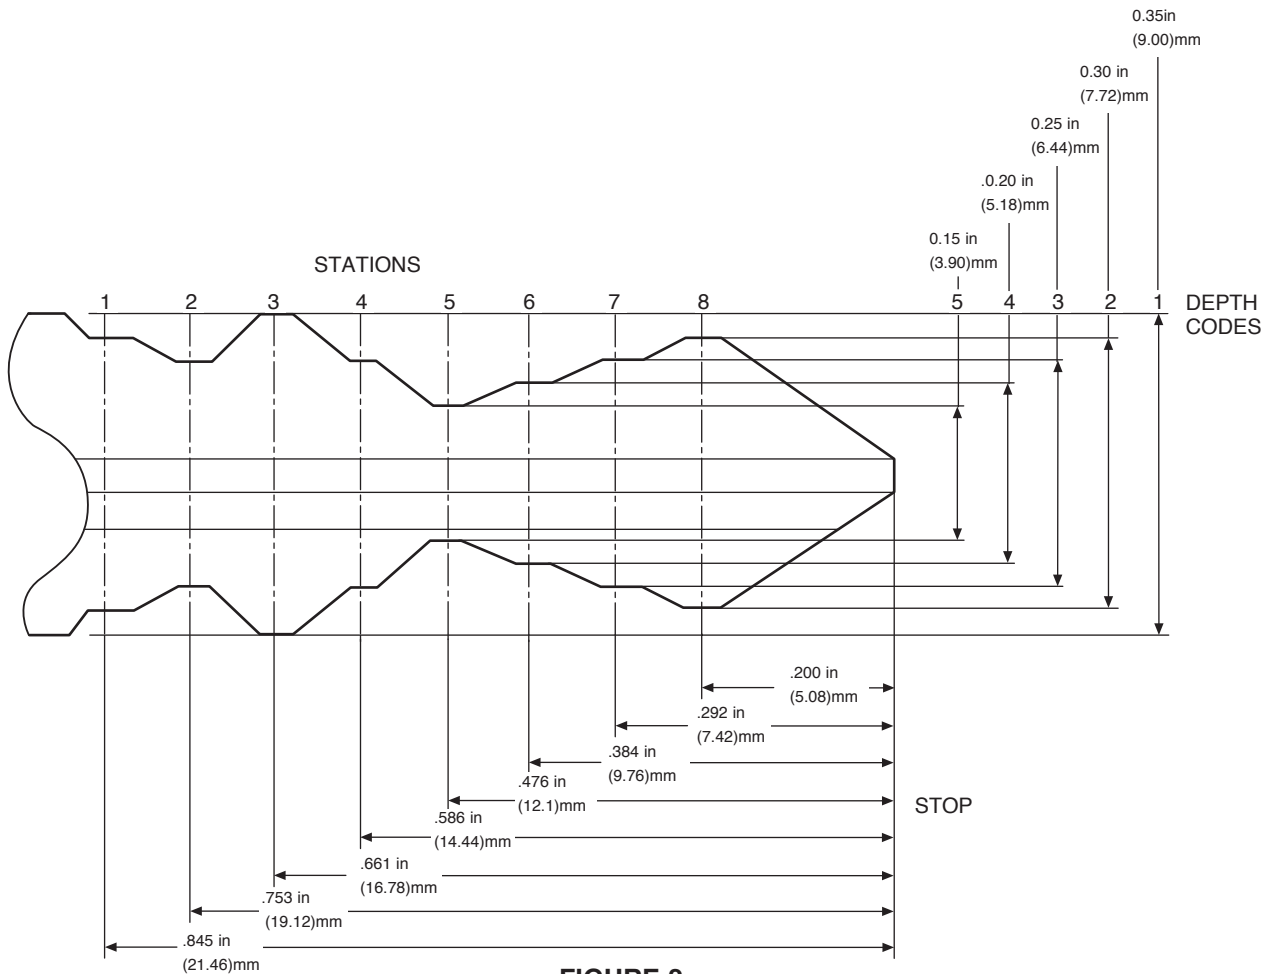

FIGURE 2
- 1c. Using the customer's key, measure the key cut depth at each key station (refer to Figure 2).